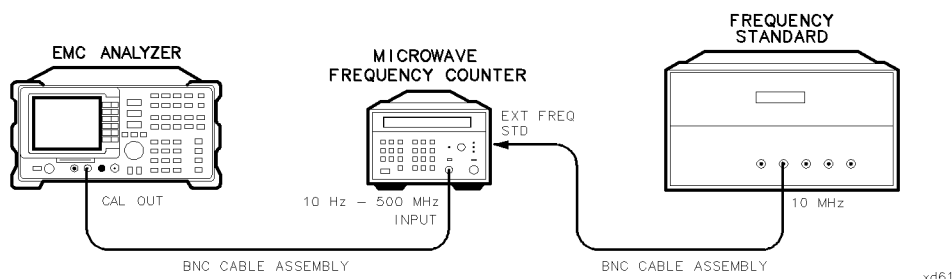

Figure 2-1. 10 MHz Reference Output Accuracy Test Setup
1. Connect the equipment as shown in Figure 2-1.